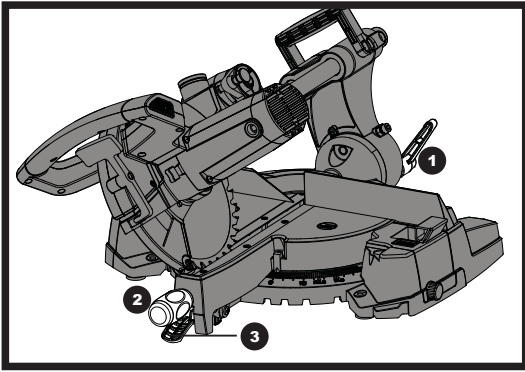

Fig 32
1) Loosen the bevel lock handle (1) and position the cutting head at the desired bevel position. Lock the bevel lock handle.
2) Loosen the mitre handle (2). Press down the positive stop locking lever (3) and position the table at the desired angle. Release the positive stop locking lever and lock the mitre handle. (See fig. 32)